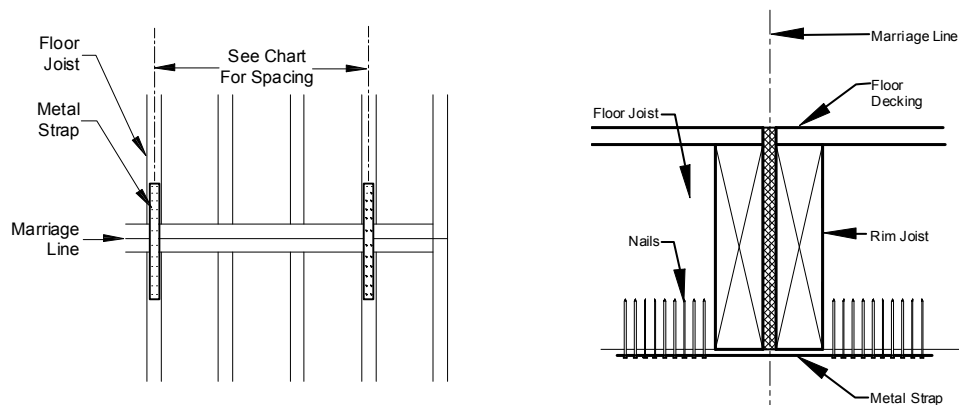

Figure 29. Metal strapping for Wind Zones II and III
- In Wind Zones II and III, fasten metal straps of minimum 26 gauge, 1-1/2" wide galvanized steel spaced per **Table 14** and fastened per **Table 15** to the underside of the floor joists (**Figure 29**). Select a strap length sufficient to hold the required fasteners. Straps are not required in Wind Zone I.